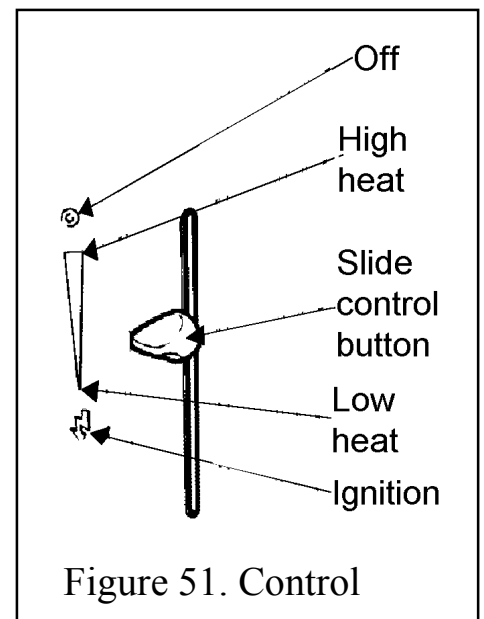

Figure 51. Control
The control position markings on the front surround are shown in figure 51.
5. Gradually slide the button up to increase the burner setting. The burner should be at its maximum setting at the high heat position shown in figure 51. You should feel a check to the button movement at this position.